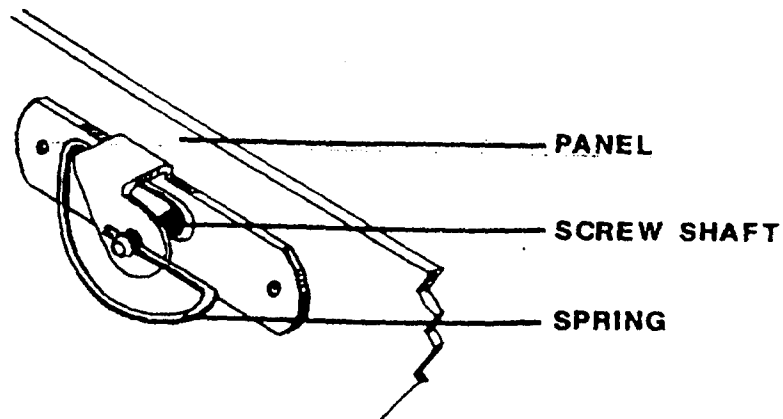

FIGURE 3-1. Panel Fastener.
- 3-1. **LUBRICATION.** There is no scheduled lubrication required. However, if the panel fasteners (screws) become hard to turn, apply a light coat of machine oil (use lubrication oil, item 2, Appendix D) to the screw shaft (figure 3-1).